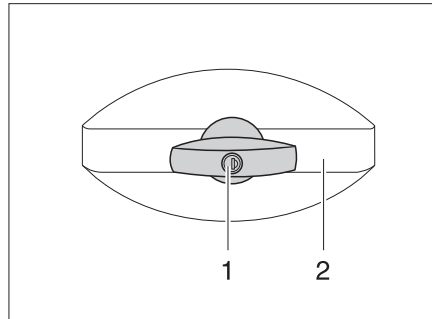

Fig. 28 Flap lock, elliptical, locked
- Insert the key into the locking cylinder (Fig. 28,1) and turn a quarter turn anti-clockwise. Lock handle (Fig. 28,2) is released.